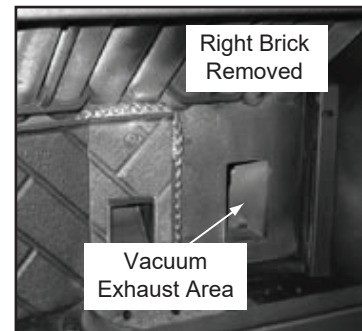

Figure 21.2
- Open cast hinge face. Remove baffle and right brick and thoroughly vacuum the area and continue throughout the rest of the firebox (**Figure 21.2**).